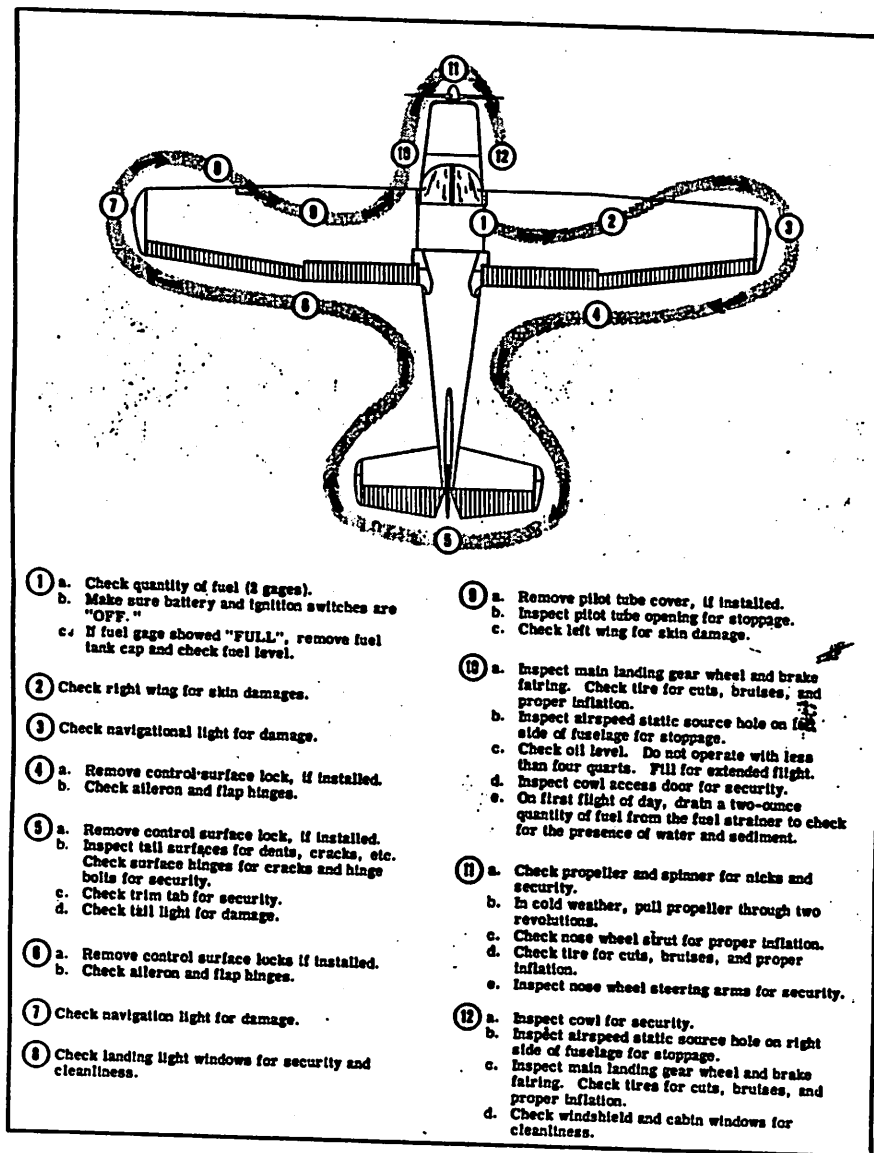

Figure 6. Exterior Inspection Diagram
- (1) Check oil level. Do not operate on less than four quarts. Fill for extended flights.
- (2) On first flight of the day, drain a small (one-ounce) quantity of fuel from fuel strainer drain to insure that no free water is in the line.
- (3) Check quantity of fuel.
- (4) Make a visual check of the airplane (see-figure 6).
- (5) Remove control locks, and nose gear tow bar if installed.